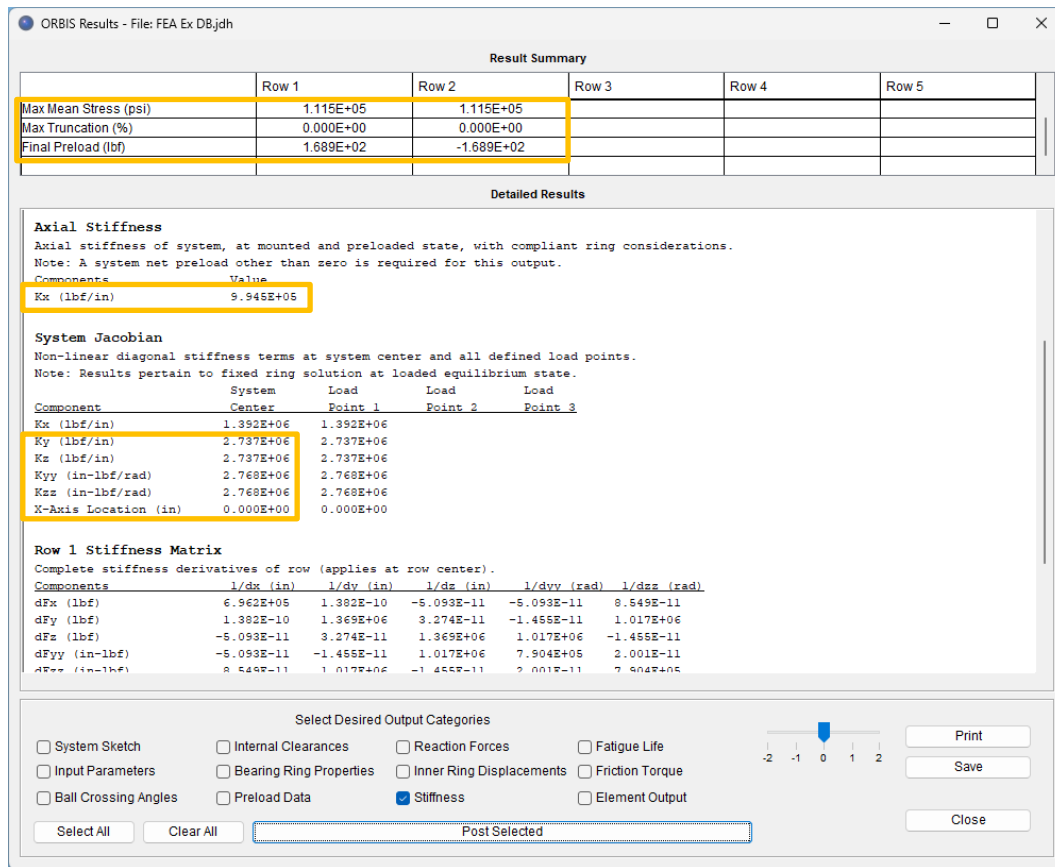

Figure 3-5. Example - DB Results
- Analyze the duplex bearing pair with no external loading (just internal preloading) and verify results match the highlighted items in Figure 3-5. The highlighted stiffness parameters represent the principal stiffness of the duplex pair of bearings at their geometric center, which will be used to model the bearing in the FEA tool later.